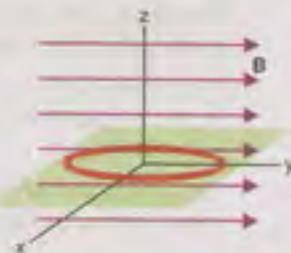

Fig. Q. 15.7
- 15.7 The Fig.Q.15.7 shows a coil of wire in the xy plane with a magnetic field directed along the y - axis. Around which of the three coordinate axes should the coil be rotated in order to generate an emf and a current in the coil?